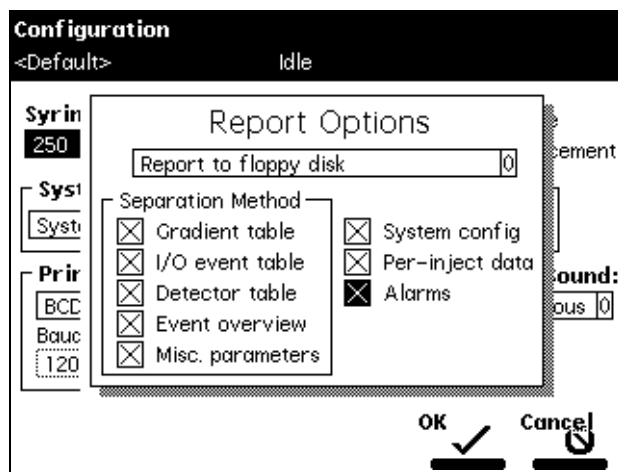

Figure 3-9 Report Options Dialog Box
1. In the Configuration screen, press the **Reports** screen key to display the Report Options dialog box (Figure 3-9).